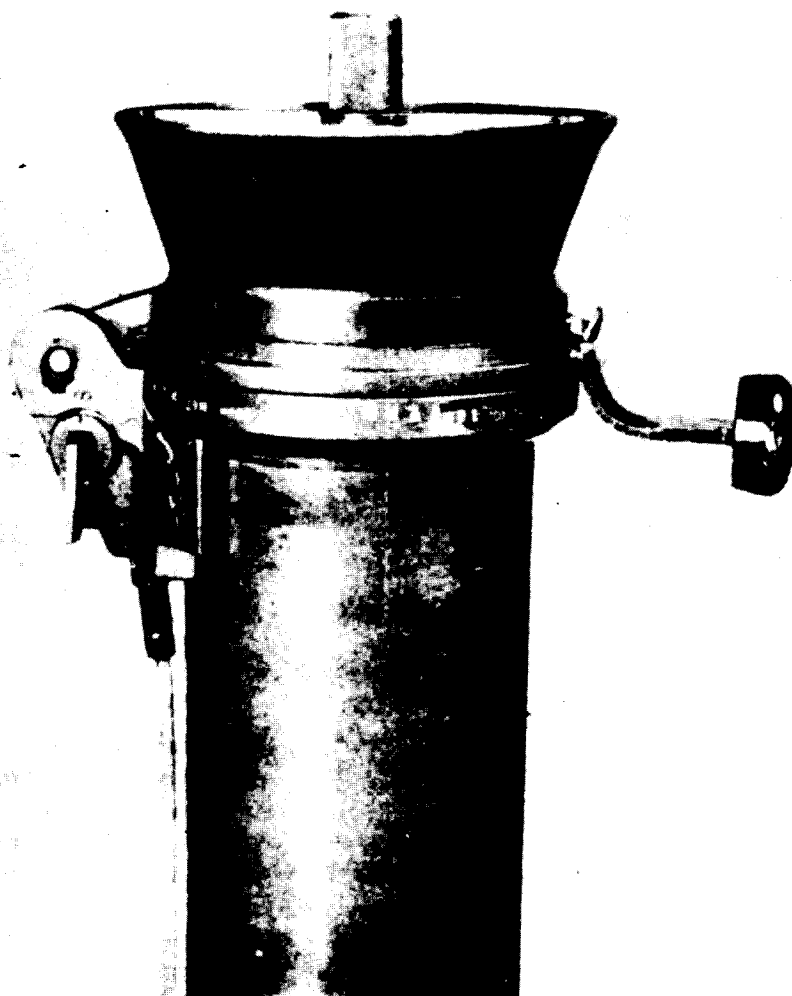

Figure 19. Safety arm in safe position.
b. *Loading 90mm Rifle* (fig. 18). To load the 90mm rifle, the loader inserts a cartridge into the chamber and completely chambers it by sharply pushing the cartridge all the way forward. To close and lock the breech, he grasps the locking handle with his right hand, moves the breechblock forward until it is seated in the breech, and rotates the locking counterclockwise until it is fully locked. Upon locking the breech, he inspects the backblast area to see that the area is clear. If the area is clear, he moves the safety arm to the fire position *F* (fig. 19), taps the gunner on the shoulder, and calls UP to indicate to the gunner that the rifle is ready to fire. Figure 19 shows the safety arm in the safe position.